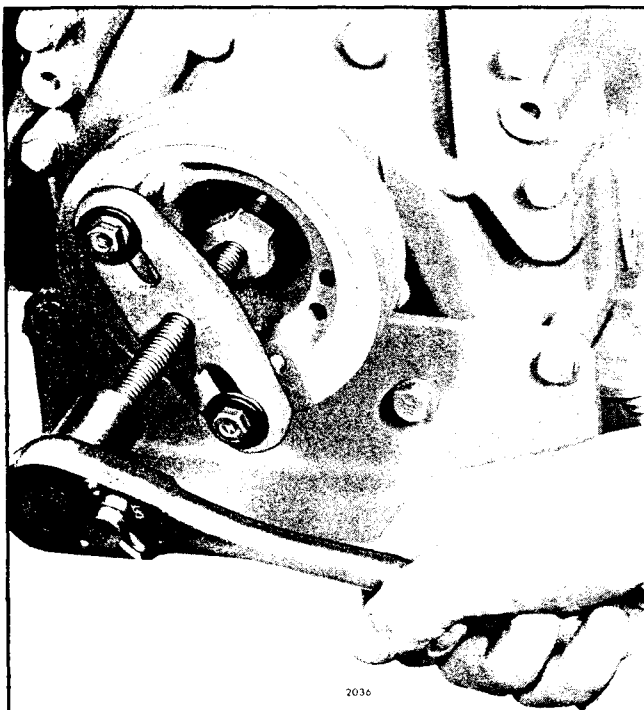

Fig. 1 - Removing Crankshaft Pulley Using Puller J 4794-01
3. If a rigid type pulley is being removed from an In-line or 6V engine, install the pulley retaining bolt and puller J 4794-01 as shown in Fig. 1. Then force the pulley off the crankshaft by turning the puller center screw in.